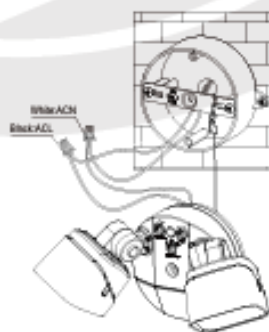

Figure 4
4. Properly connect the wires to the main power supply and ensure adequate protection (Figure 4).